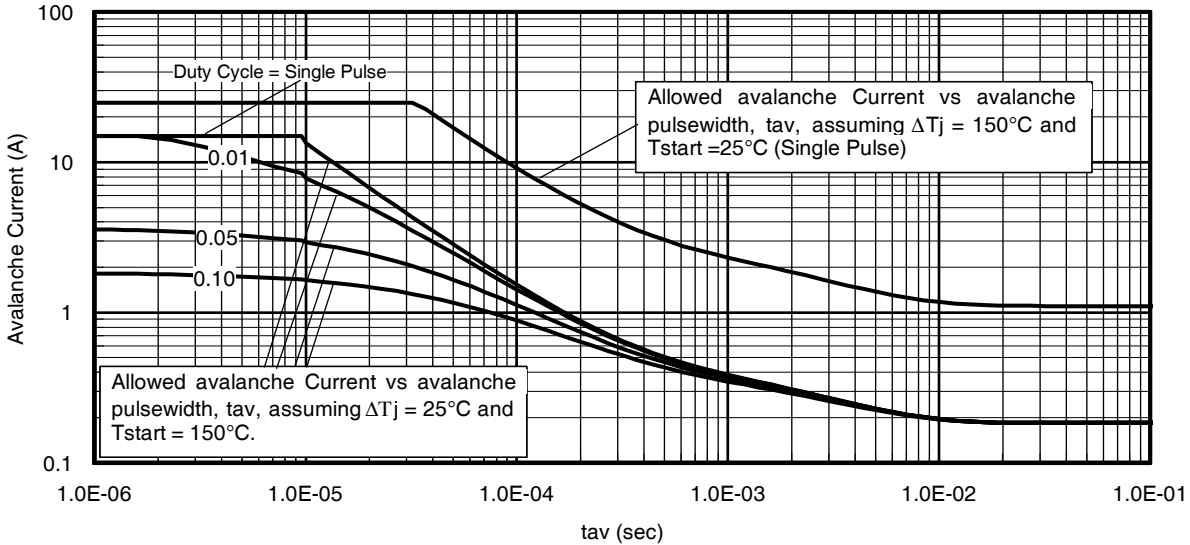

Fig 14. Typical Avalanche Current Vs. Pulsewidth
- ① Repetitive rating; pulse width limited by max. junction temperature.
- ② Starting $T_J = 25^\circ\text{C}, L = 1.00mH, R_G = 25\Omega, I_{AS} = 15A$.
- ③ Pulse width $\leq 400\mu s$; duty cycle $\leq 2\%$.
- ④ R_{θ} is measured at T_J of approximately 90°C .
- ⑤ Limited by T_{jmax} . See Figs. 14, 15, 17a, 17b for repetitive avalanche information
Notes on Repetitive Avalanche Curves, Figures 14, 15:
7. ΔT = Allowable rise in junction temperature, not to exceed T_{jmax} (assumed as 25°C in Figure 14, 15).